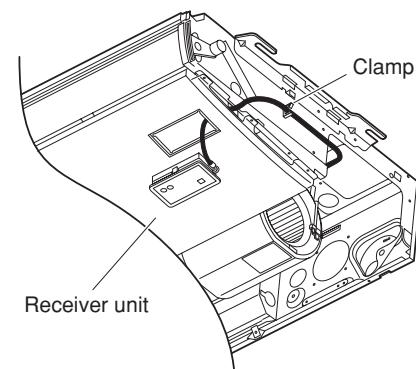
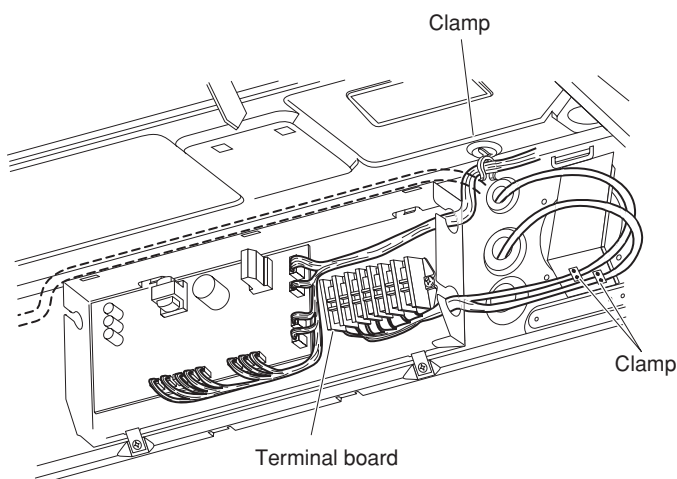

Fig. 11-9
Fig. 11-10
- (4) Fasten the receiver lead wire to the fastener that holds the louver motor wiring. (Fig. 11-9)
- (5) Reattach the side panel.
- (6) Route the lead wire from the receiver unit along the louver motor wiring and other wiring and fasten them with a fastener. (Fig. 11-10)